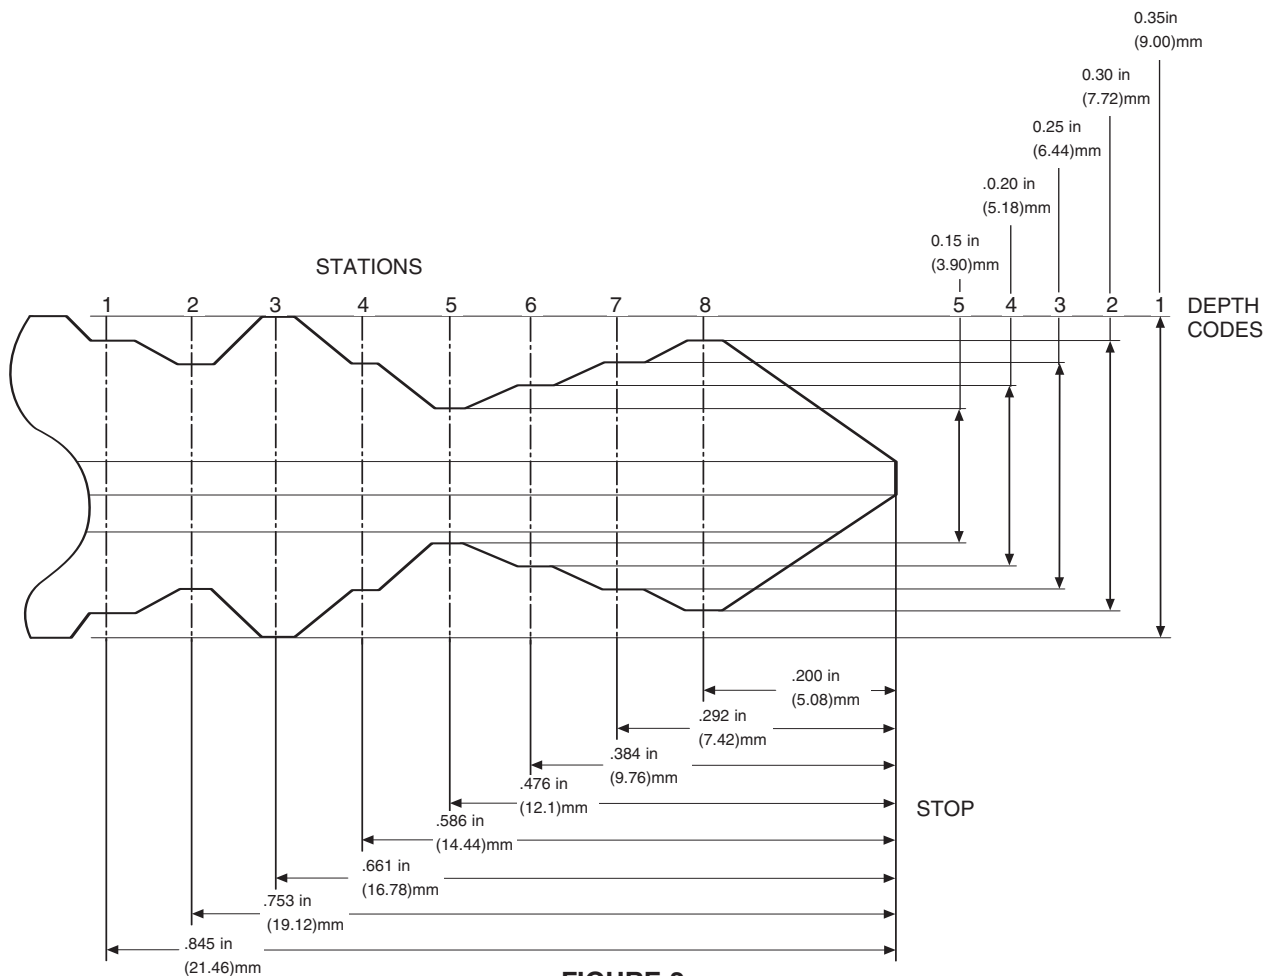

FIGURE 2
- 1c. Using the customer's key, measure the key cut depth at each key station (refer to Figure 2). Write down the key cut depths, in terms of the depth code, not the actual measurements of the depths, in the following order: